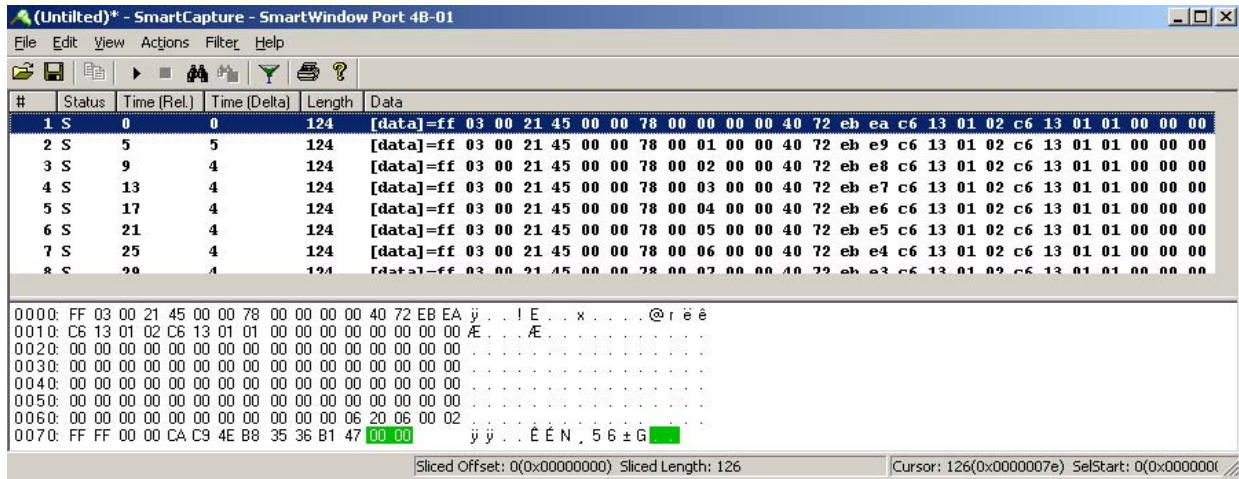
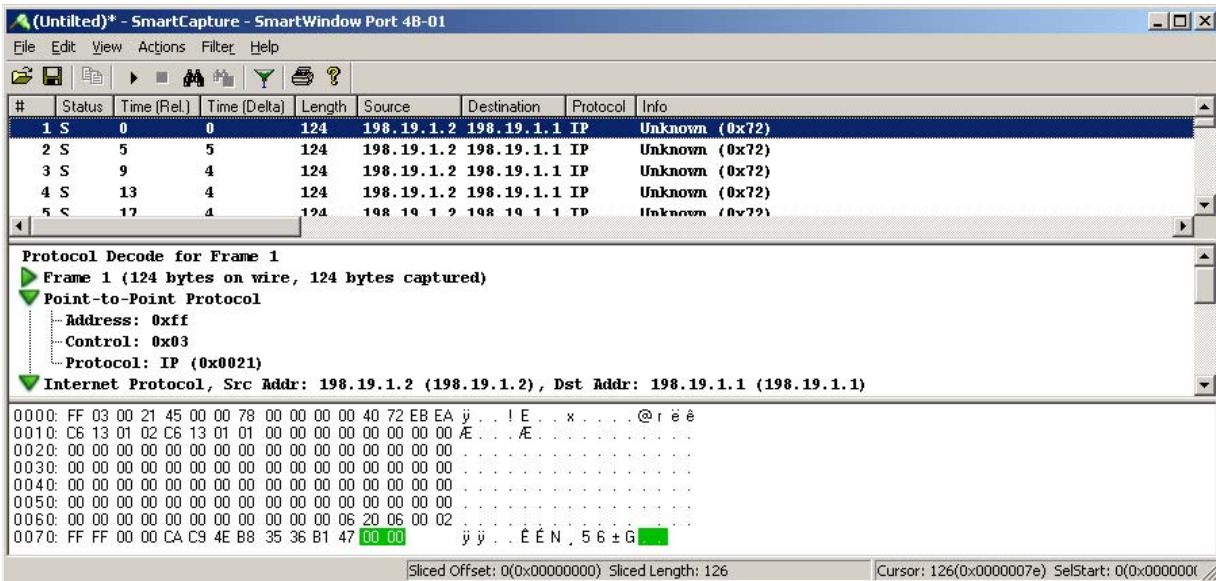

Figure 5-18. Classic Capture Window
Figure 5-19. Decoder Capture Window
Figure 5-18 on page 152 is a decoder SmartCapture window and has three window panes: Frames List, Decode Tree, and Frame Content. Another view of the captured frames consists of two window panes and is called the Classical view. This view displays both the Frames List and Frame Content window panes. Each of these views can be selected from the toolbar under View. (See Figure 5-18 on page 152 and Figure 5-19 on page 152.)
The bottom-most window pane shows the hexidecimal values of the selected stream. In Figure 5-18 on page 152, all packets contain the SmartBits signature field (S).
The three panes of the *Decoder* window display different aspects of the captured data (Figure 5-19): test data streams (top); the decoded values of the selected stream (middle); and the decoded, hex values of the selected stream (bottom).